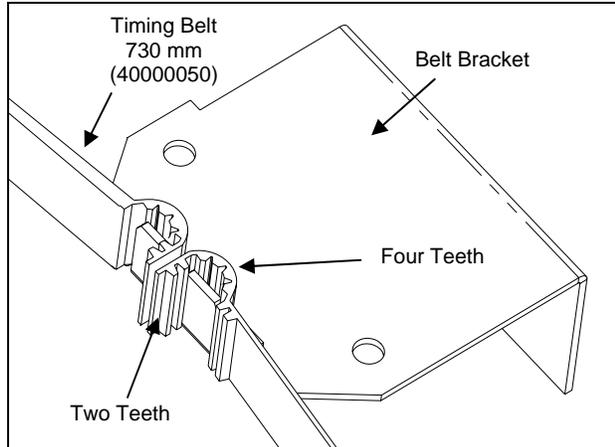

Figure 15-3 Timing Belt Bracket Region
- 1 Install the belt in the belt bracket such that there are two front teeth exposed and four in the back as shown in Figure 15-3.